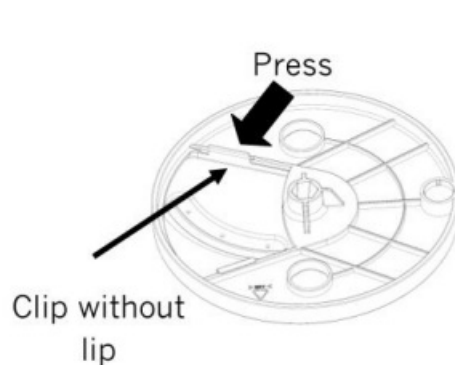
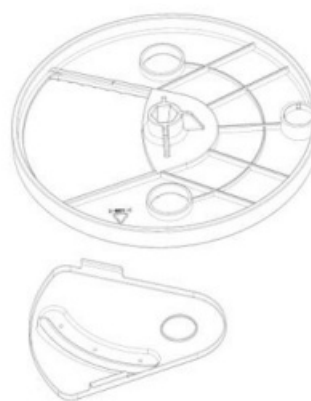

Fig. 4
Fig. 5
4. Remove the shredding, slicing and julienne blades from the holder before washing. To separate the blade from the holder, turn the holder over and from the reverse, press in the direction shown on the clip (fig. 4) to release the blade (fig. 5).